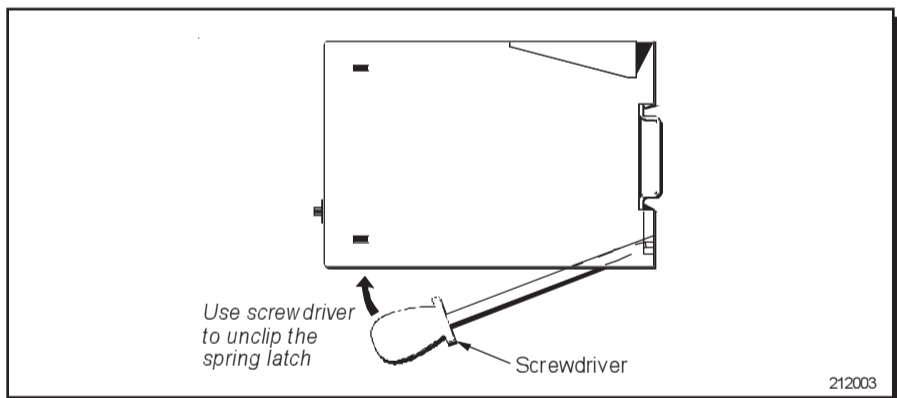

Fig. 3 Removing the LM Technic from a DIN rail
- Refer to Fig. 3. Insert a screwdriver into the sliding spring catch via the slot on the underside of the unit.